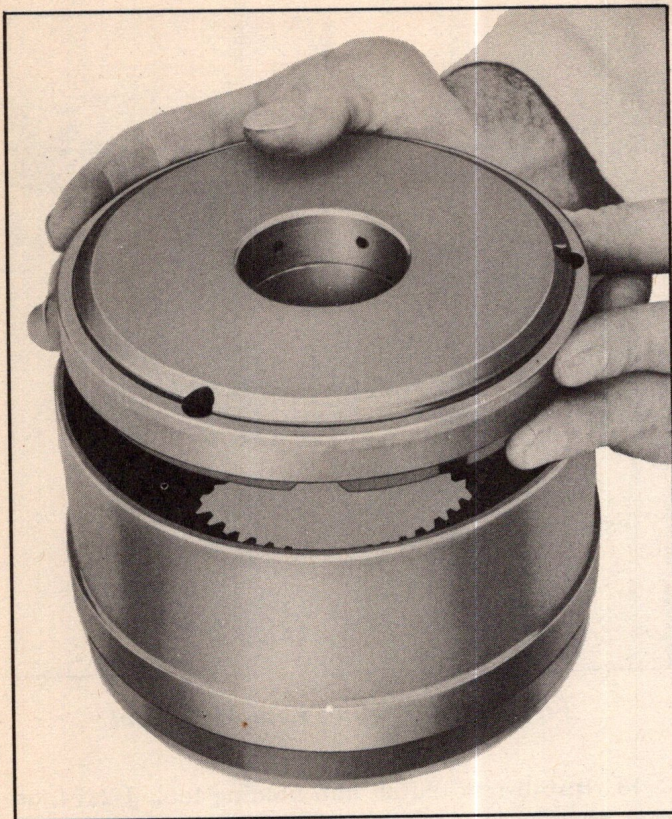

Fig. 248—Installing Rear Clutch Drum
9. Install rear clutch drum and piston assembly over drive pins into drum (Fig. 248).